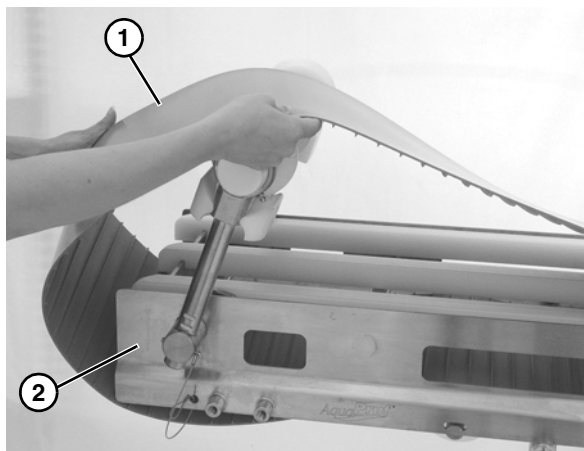

Figure 9
5. Slide the belt (**Figure 9, item 1**) on over the conveyor frame (**Figure 9, item 2**).